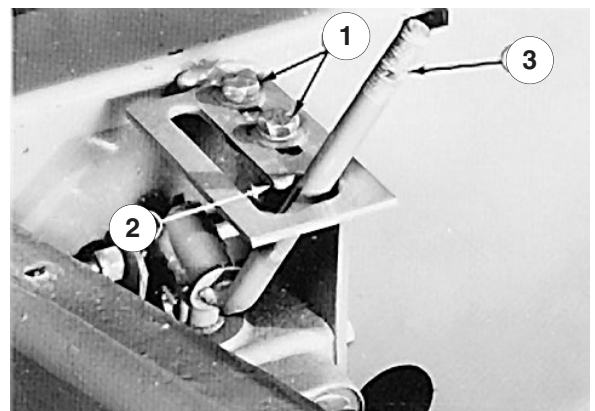

Figure 47
- Loosen the two capscrews on the top of the lift lever latch (Fig. 47). Place the lever on rounded tip of the latch (Fig. 47), and slide the latch w/the lever forward until you feel stopping resistance. Then tighten the capscrews to lock the latch in place. Check for free operation of the lift lever by moving the lever from RAISE or TRANSPORT to FLOAT. The lift lever should just clear the rounded position of the latch as you move the lever into the FLOAT position.